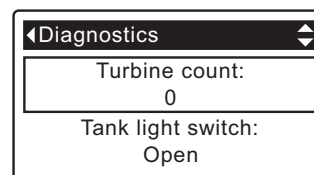

FIG. 86
2. Press the DOWN (▼) button to scroll through the list until **Turbine Count** is displayed (See Figure 86).